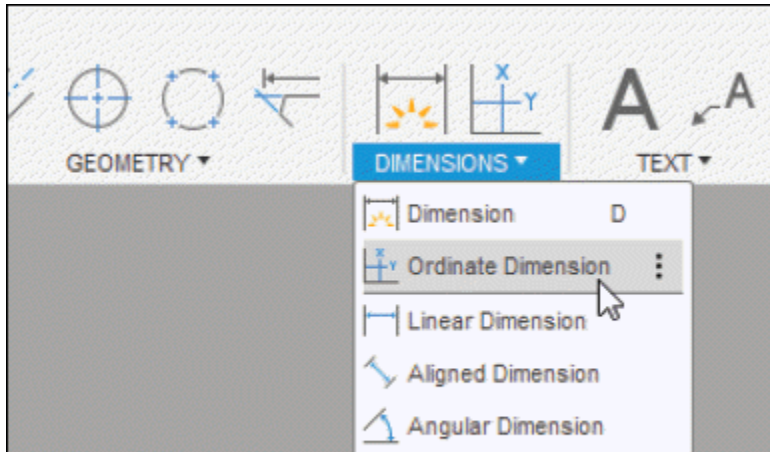

Figure-52. Ordinate Dimension tool
- Click on the **Ordinate Dimension** tool from **DIMENSIONS** panel; refer to Figure-52. The tool will be activated and you will be asked to specify origin for ordinate dimensioning.